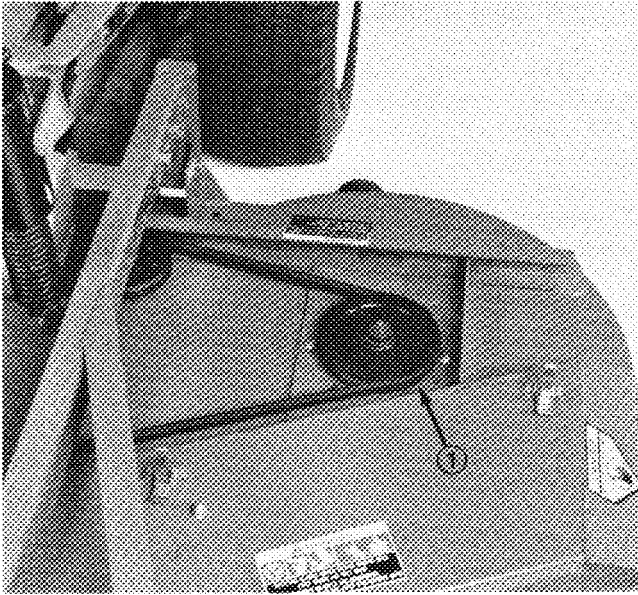

Figure 40
- Remove nut and flatwasher retaining pulley (Fig. 40) on spindle shaft. Pull pulley off shaft.